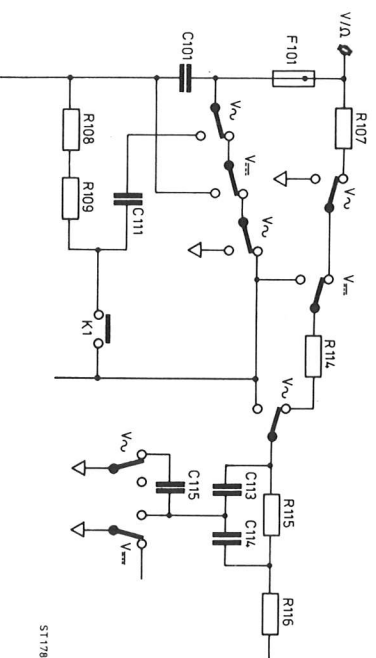

Fig. 13. Input filter
7.1.1.3. Input filter circuit (Fig. 13, page 47)